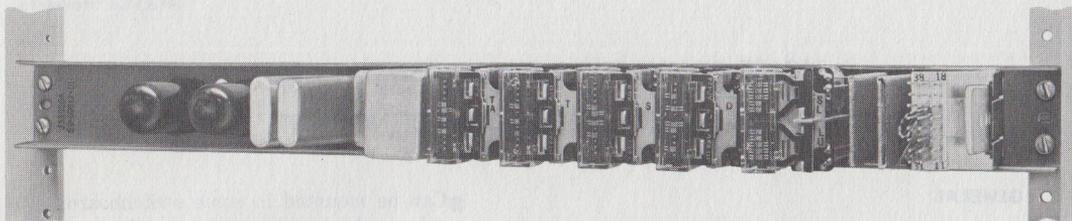

Fig. 1—J53050A, List 1 Interconnecting Unit
- The J53050A, List 1 Interconnecting Unit (Fig. 1) is for use between Bell System manual PBXs and customer-provided (CP) dial intercommunicating systems which are arranged for supervision.